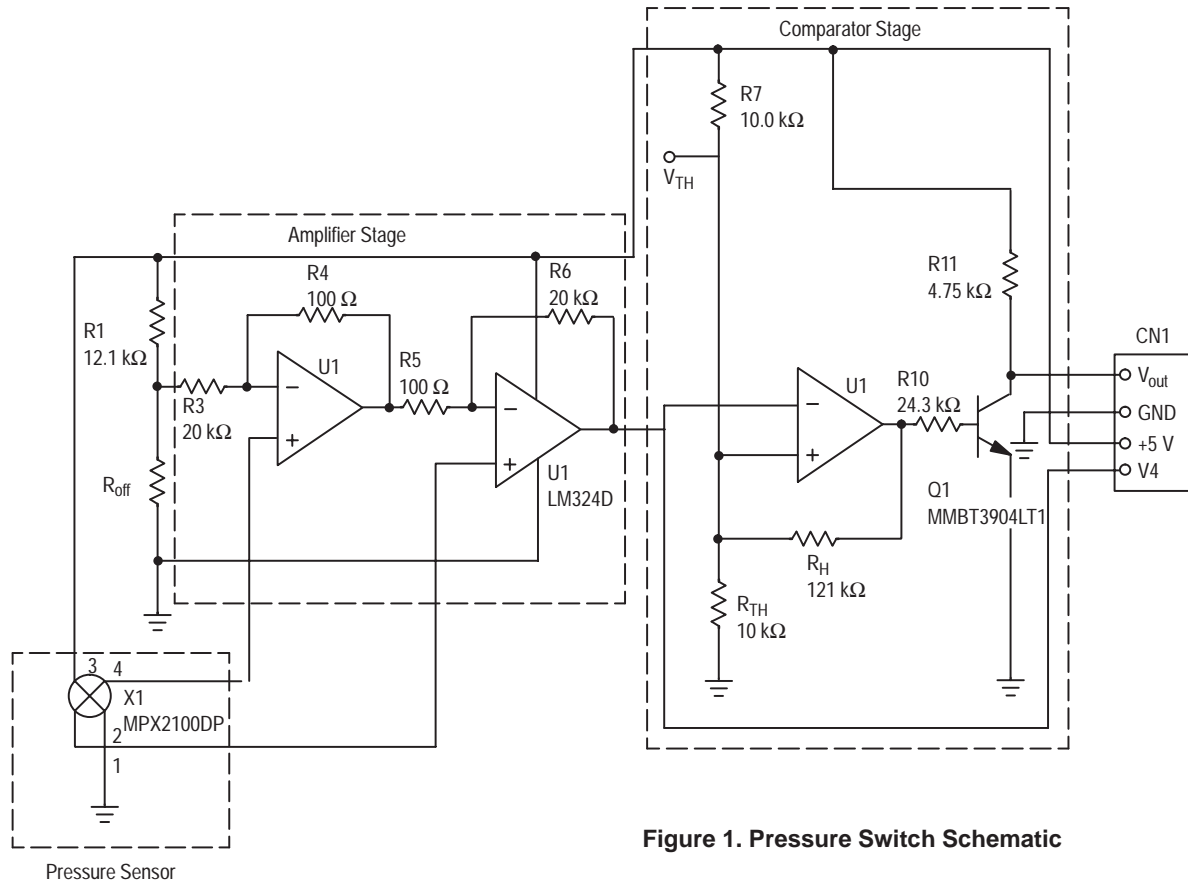

Figure 1. Pressure Switch Schematic
The amplifier circuitry, shown in Figure 1, is composed of two op-amps. This interface circuit has a much lower component count than conventional quad op amp instrumentation amplifiers. The two op amp design offers the high input impedance, low output impedance, and high gain desired for a transducer interface, while performing a differential to single-ended conversion. The gain is set by the following equation:
- The threshold for which the output switches must be programmable. The threshold is easily set by dividing the supply voltage with resistors  $R7$  and  $R_{TH}$ . In Figure 1, the threshold is set at 2.5 V for  $R7 = R_{TH} = 10\text{ k}\Omega$ .
speed is comparable to the LM311's. This enhanced performance does, however, require an additional transistor and base resistor. Referring to Figure 1, note that this comparator topology was chosen for the pressure switch design. The LM324 is a quad op amp that has equivalent amplifier characteristics to the LM358.
Like the other two circuits, this comparator circuit can be designed with the same equations and procedure. The values for  $R_B$  and  $R_{PU}$  are chosen to give a 5:1 ratio in Q1's collector current to its base current, in order to insure that Q1 is well-saturated ( $V_{out}$  can pull down very close to ground when Q1 is on). Once the 5:1 ratio is chosen, the actual resistance values determine the desired switching speed for turning Q1 on and off. Also,  $R_{PU}$  limits the collector current to be within the maximum specification for the given transistor (see example values in Figure 1). Unlike the other two circuits, this circuit is positive logic due to the additional inversion created at the output transistor stage.